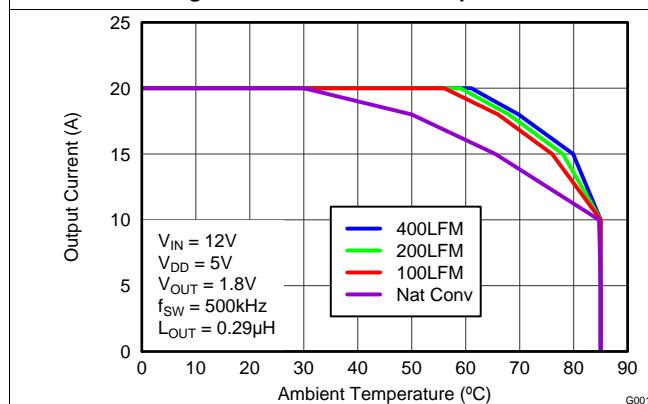
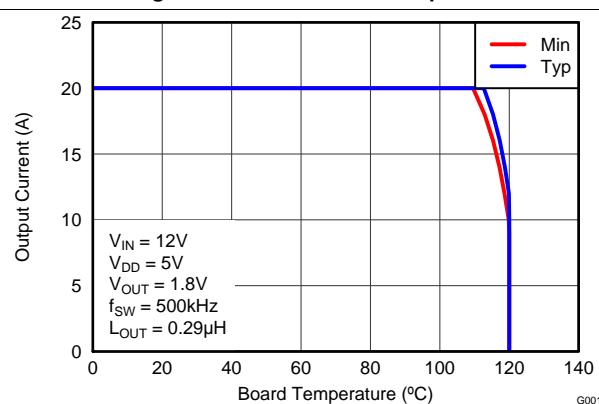

Figure 3. Safe Operating Area (SOA) – PCB Horizontal Mount (1)
Figure 4. Typical SOA (1)
The SOA curves in the CSD95379Q3M data sheet give engineers guidance on the temperature boundaries within an operating system by incorporating the thermal resistance and system power loss. Figure 3 and Figure 4 outline the temperature and airflow conditions required for a given load current. The area under the curve dictates the safe operating area. All the curves are based on measurements made on a PCB design with dimensions of 4 inches (W) \times 3.5 inches (L) \times 0.062 inch (T) and 6 copper layers of 1 oz. copper thickness.